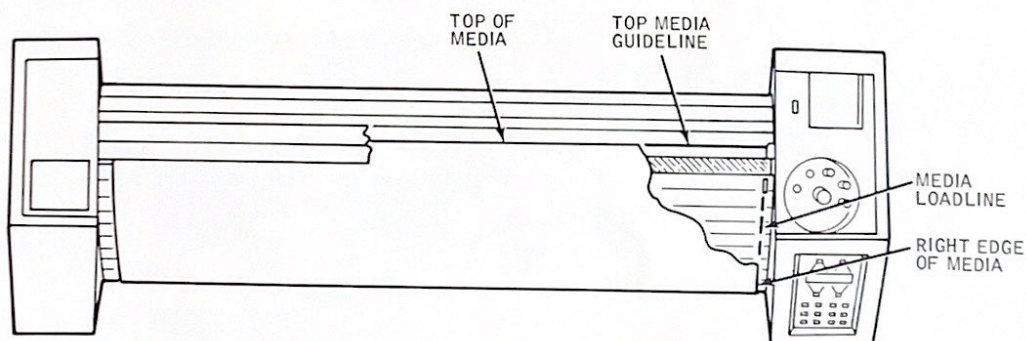

Figure 1-9. 1025/1026 Plotter Media Alignment
1025/1026 PLOTTER CUT-SHEET MEDIA LOADING PROCEDURE (Refer to Figure 1-9)
7. With the pinch rollers up, slide the left pinch roller over the left edge of the sheet. Move the roller by its "body" rather than by its lever. (Refer to Figure 1-9.)